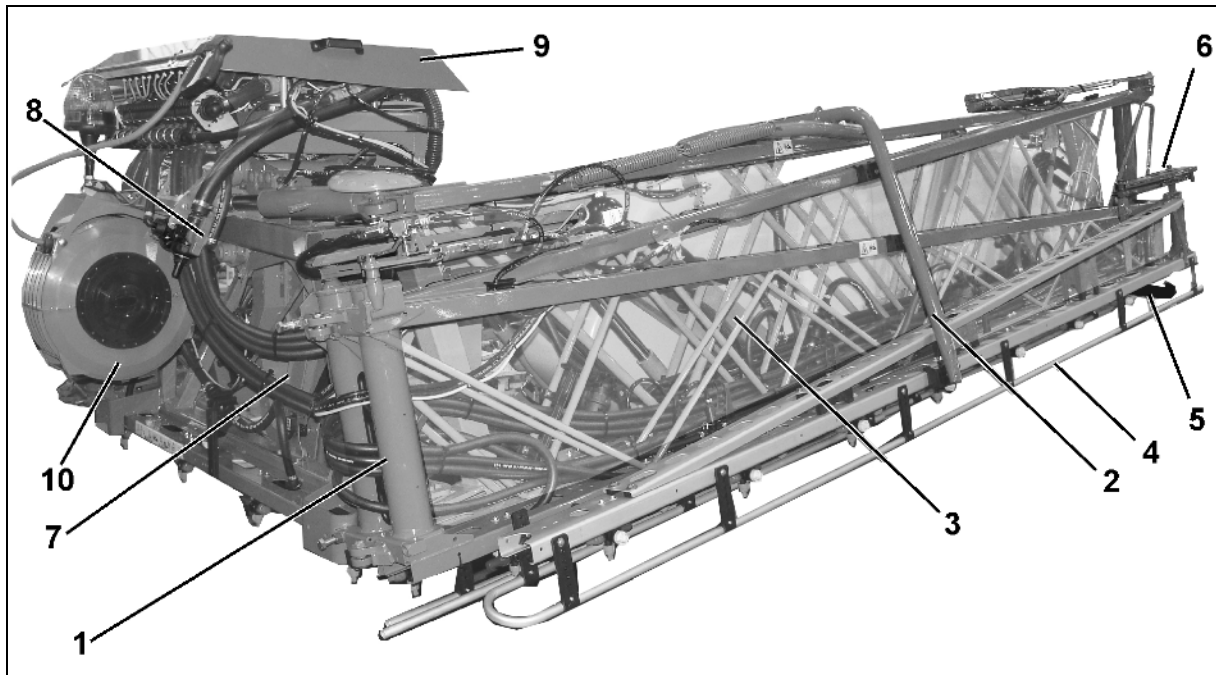

Fig. 97
| | (9) Boom equipment, see Fig. 97 |